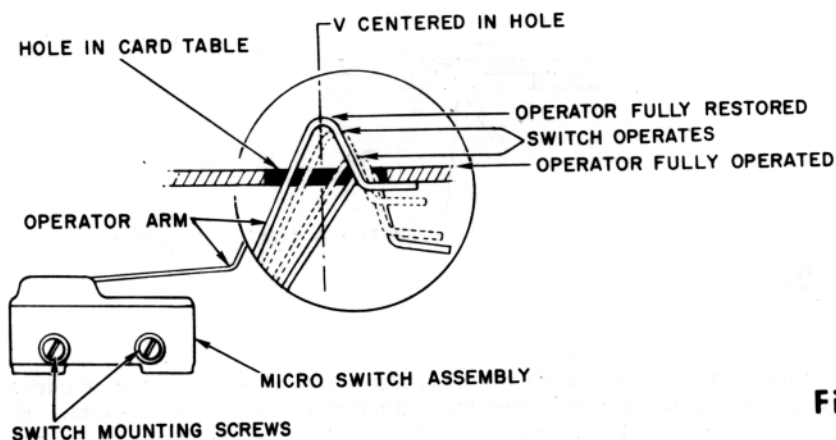

Figure 1.
1. Slightly loosen the switch mounting screws so that each switch may be positioned as required (Figure 1).